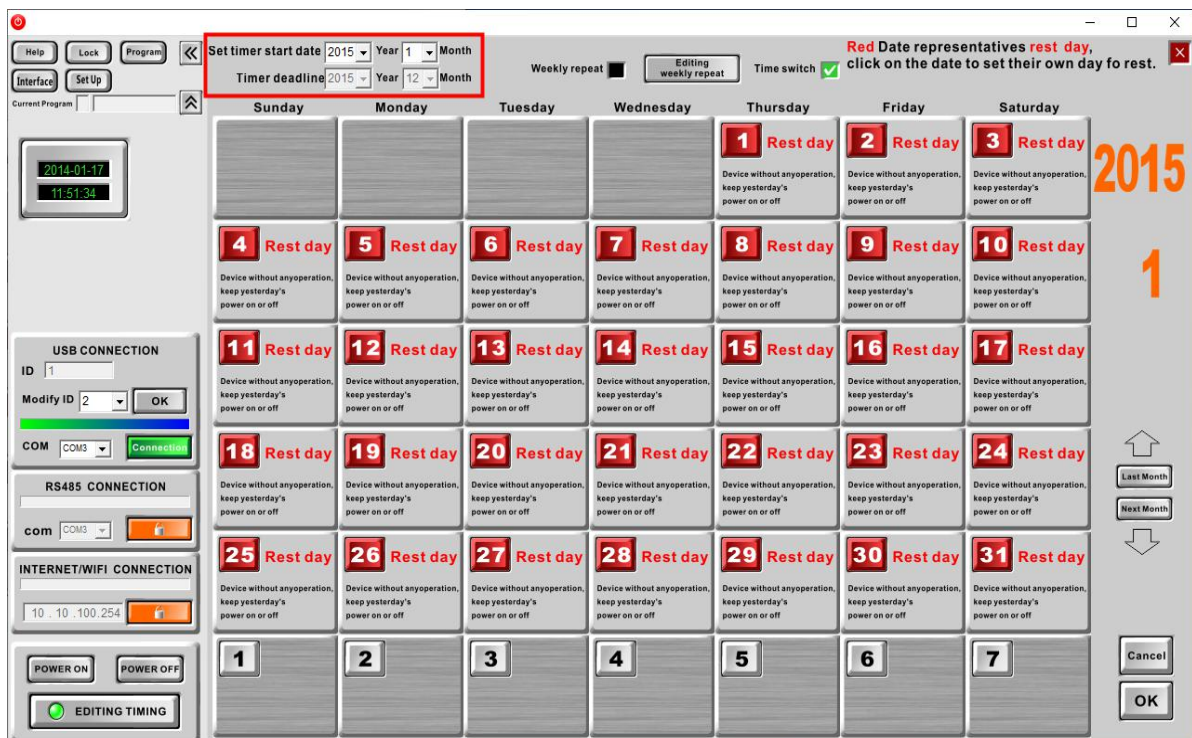

Figure 15
Step 1: Select the start date as January 2015 (the timed date that needs to be edited must be within the "Timed start date" and "Timed end date"), as shown in the red box in Figure 15 below.